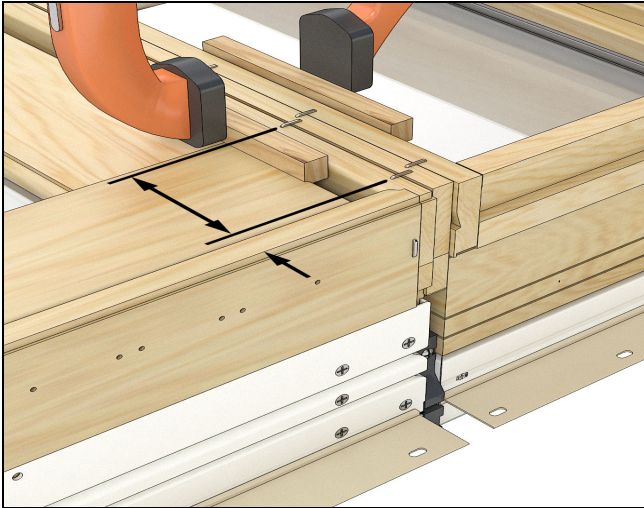

Figure 57
42. Connect the frames to the mull support with two rows of alternatively spaced staples a maximum of 1" from end and 7" on center. See Figure 57.